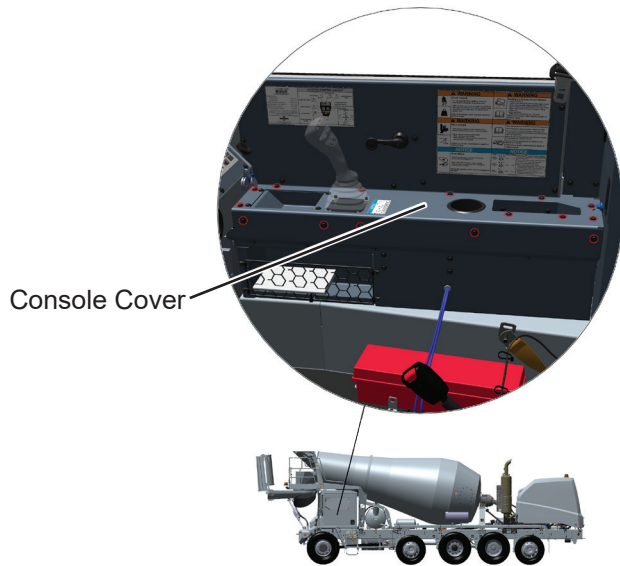

Figure 9
14. Remove fifteen screws and washers securing side console cover. See Figure 9. Save screws, washers, and side console cover for reinstallation.